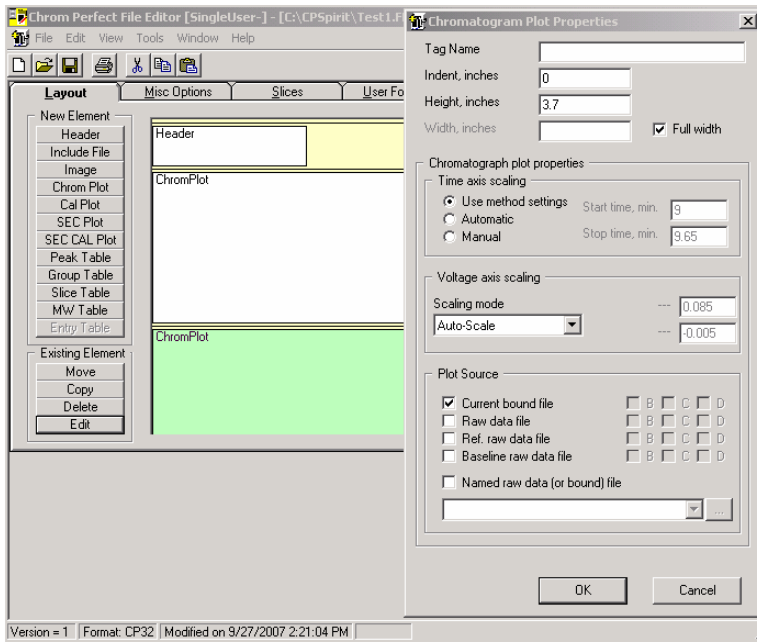

Figure A-30: Chromatogram Plot Properties
6. Select **Edit** button under Existing Element to open Chromatogram Plot Properties window (Figure A-30).